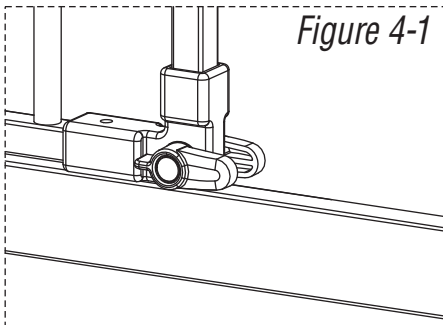
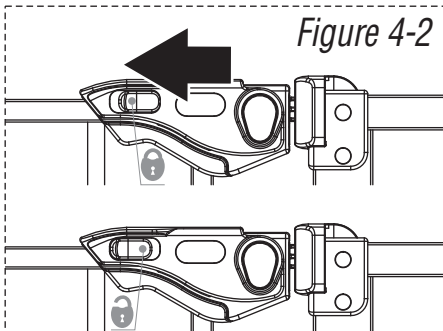

Figure 4-1
Figure 4-2
**To Open** - Ensure that the base locks at the bottom of the gate door are in the horizontal position (Figure 4-1). Pull the spring lock away from the easy open latch while simultaneously lifting the lock lever upwards (Figure 4-2 and 4-3). This will release the locking latch from the gate frame and allow the door to push or pull open.